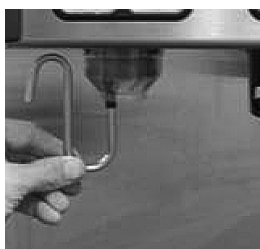
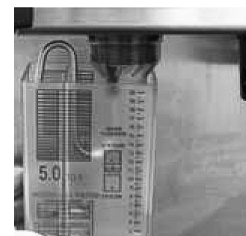

Figure 4.
Figure 5.
4. Insert the S-tube through the splitter nozzle opening and onto the desired nozzle port (Figure 4) Refer to “Nozzle Location Diagram” below to match syrup brand to nozzle port. Press brand button until syrup flows from the S-tube. Let it run for 5 seconds longer.
(See Figure 4 and Figure 5)